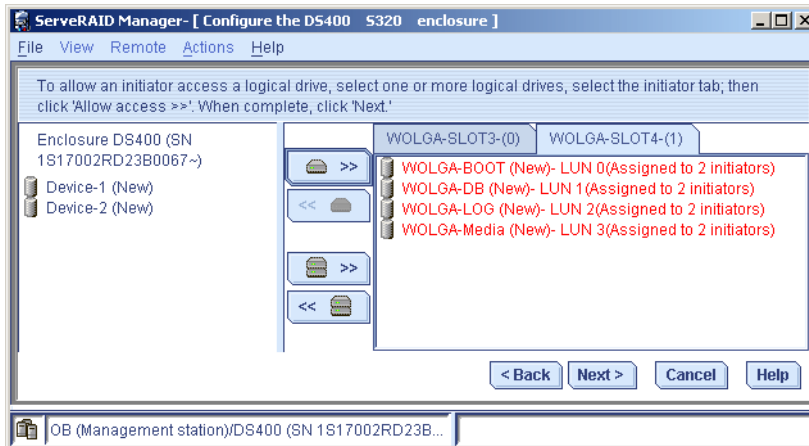

Figure 4-111 Assigned logical drives to initiators
27. In Figure 4-111 on page 145, assign the logical drives to the initiator alias WOLGA-SLOT3-(0). The logical drives will be added under the initiator alias and removed from the enclosure window. Select the initiator alias WOLGA-SLOT4-(1). All logical drives are shown in the enclosure. Add the same logical drives to the selected initiator alias. A warning appears when a logical drive is assigned to more than one initiator. This should be required for systems with multiple HBAs installed and connected to a TotalStorage DS400 or for clustered systems. Click **Next**.